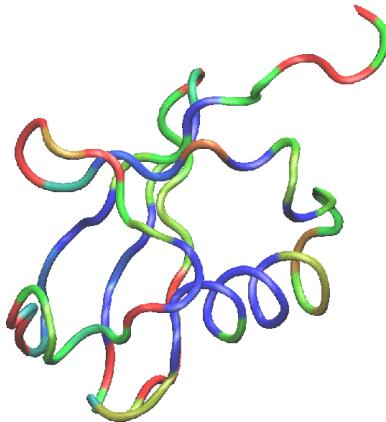

Figure 9: Ubiquitin colored by the average RMSD per residue. Red denotes more mobile residues, and blue denotes residues which moved less during equilibration.
- \* **9** Choose the **Graphics → Colors...** menu item. Choose the **Color Scale** tab. In the **Method** pull-down menu, choose **BGR**. Your figure should now look similar to Fig. 9.